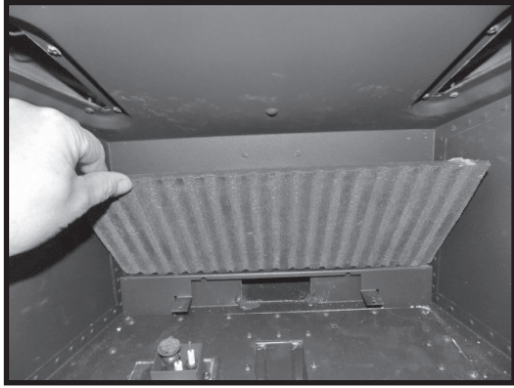

Figure 51: Removing the rear panel.
4. Remove the side and rear firebox panels (Figure 50) and (Figure 51).